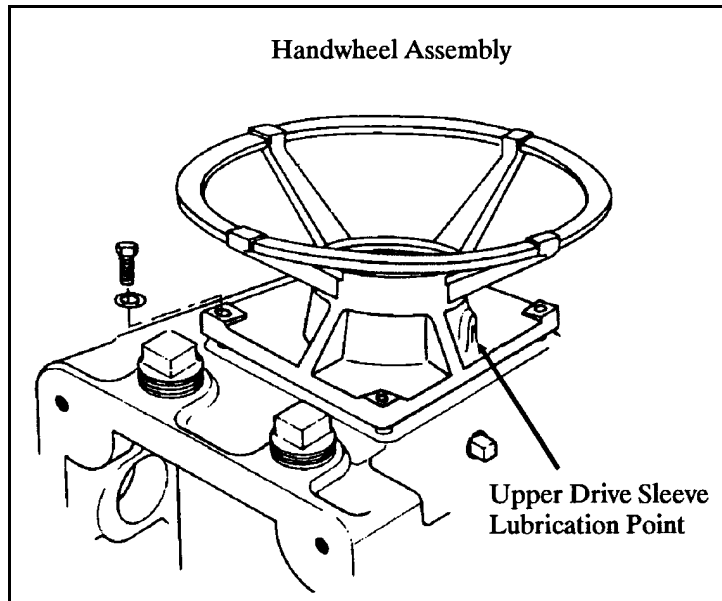

Figure 4-48 Actuator Upper Bearing Lubrication Port
28. Actuator Lubrication Refer to Figures 4-48 and 4-49